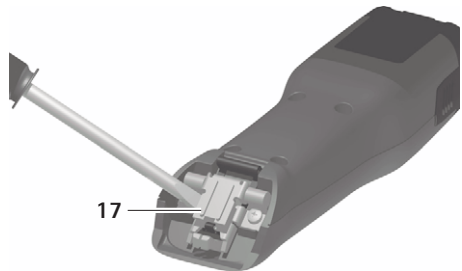

Fig. 1
- If knife hinge is closed: Open knife hinge 17 with screwdriver, see Fig. 1.